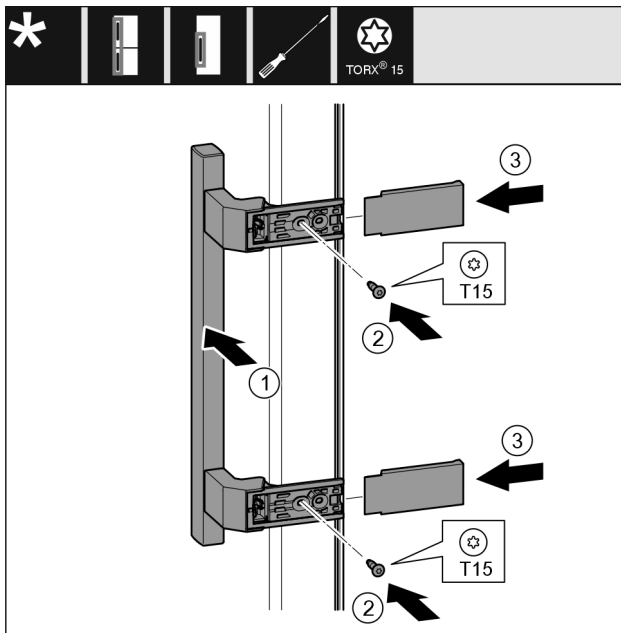

Fig. 22
- ▶ Place the handle *Fig. 22 (1)* on the opposite side.
- ▶ Tighten screws *Fig. 22 (2)* with screwdriver.
- ▶ Place the covers *Fig. 22 (3)* on the side and push them on.